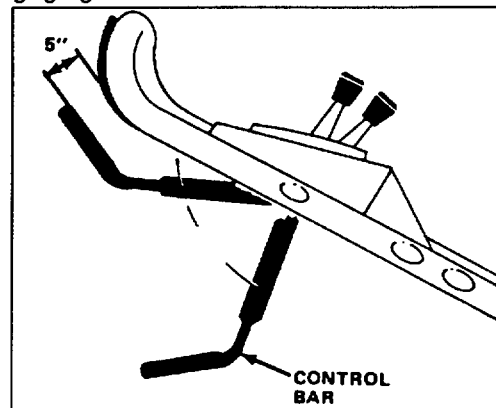

Figure 10
2. Push the control bar down to the lowest position (Fig. 10). This "latches" the mechanism prior to engaging the blade.
6. Push the control bar down to its lowest position, latching the mechanism (Fig. 10).
7. Slowly lift the control bar to a point where the bag just begins to inflate (about 5" below the handle). This indicates that the mower blade is engaged and has begun to rotate (Fig. 10).